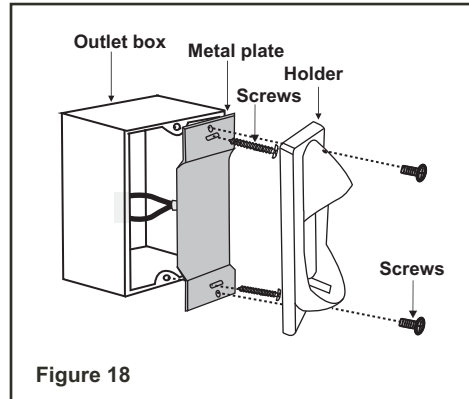

Figure 18
Step 2. Install the metal plate and holder to the existing wall outlet box with 4 screws provided. (Fig. 18)